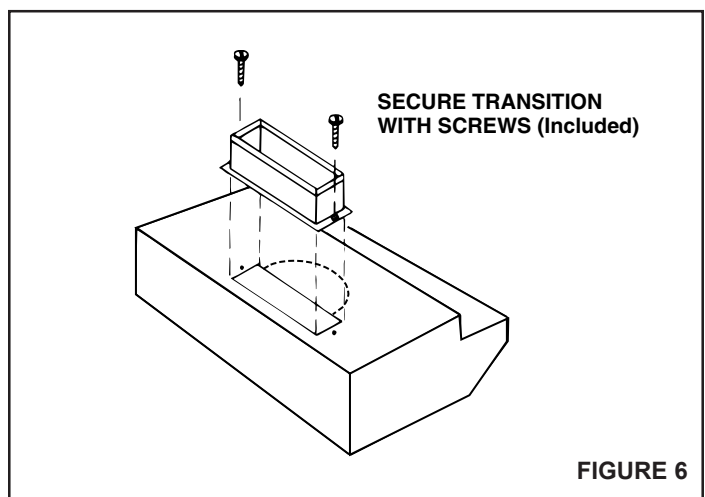

FIGURE 6
- For 3 1/4" x 10" vertical discharge installation, refer to FIGURE 6.** Secure 3 1/4" x 10" transition (if used) to top of hood.